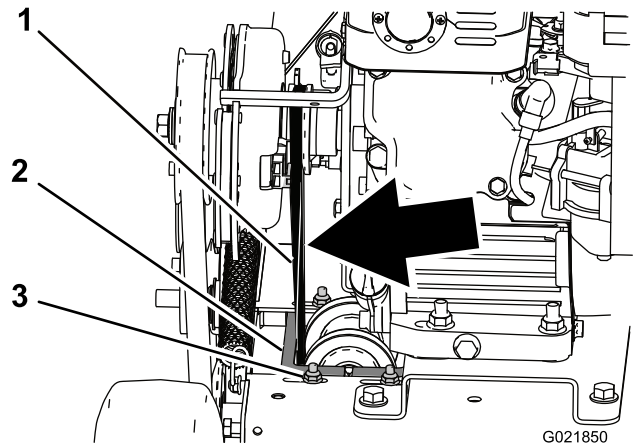

Figure 26
4. Check the tension of the belt. It should not flex more than a 6 mm (1/4 inch) with moderate finger pressure applied to the span just above the machine frame (Figure 26).
tightening the belt; then secure the 4 mounting nuts and bolts (Figure 26).